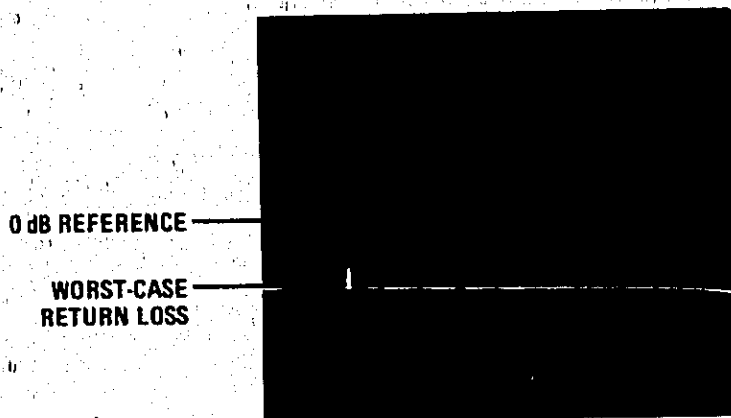

Figure 19. INCIDENT Port Return Loss (2 to 100 MHz)
- (1) Connect 8502A INCIDENT port directly to Directional Bridge LOAD Port with TEST, RF INPUT, and REFLECTED ports terminated.
- (2) Move 8505A Frequency Control MARKER 1 control to worst-case Return Loss between 2 and 100 MHz as indicated on CRT. (This is the point closest to calibration line as shown in Figure 19.)